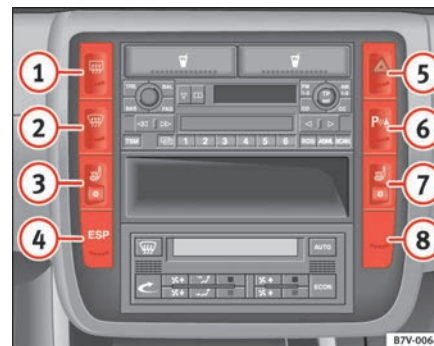

Fig. 72 Switch for hazard warning lights
2. Press button ⚠ ⇒ fig. 72 to switch on the hazard warning lights ⇒ ⚠.